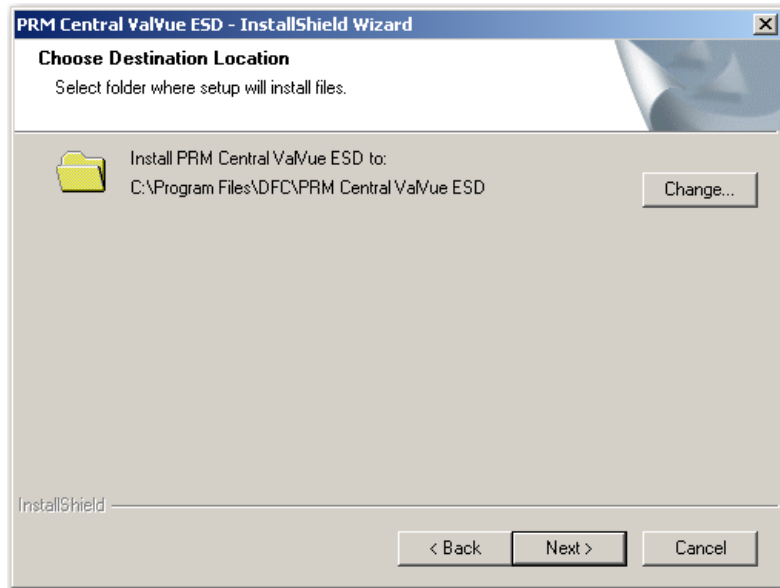

Figure 12 PRM Central Server Destination Folder
6. Click the accept radio button, click **Next** and the *Choose Destination Location* screen appears (Figure 12).